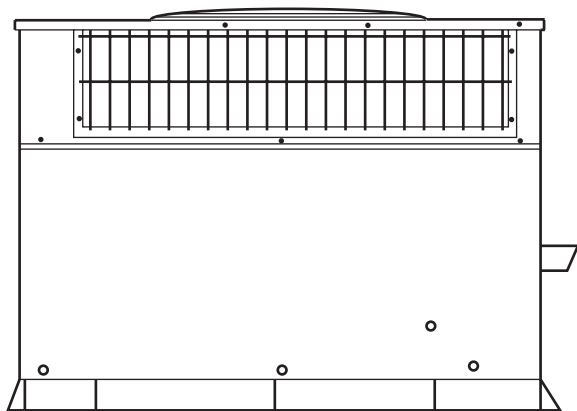

Fig. 32 — Unit Access Panel
1. Remove unit access panel. (See Fig. 32.)
3. Remove unit access panel. (See Fig. 32.)